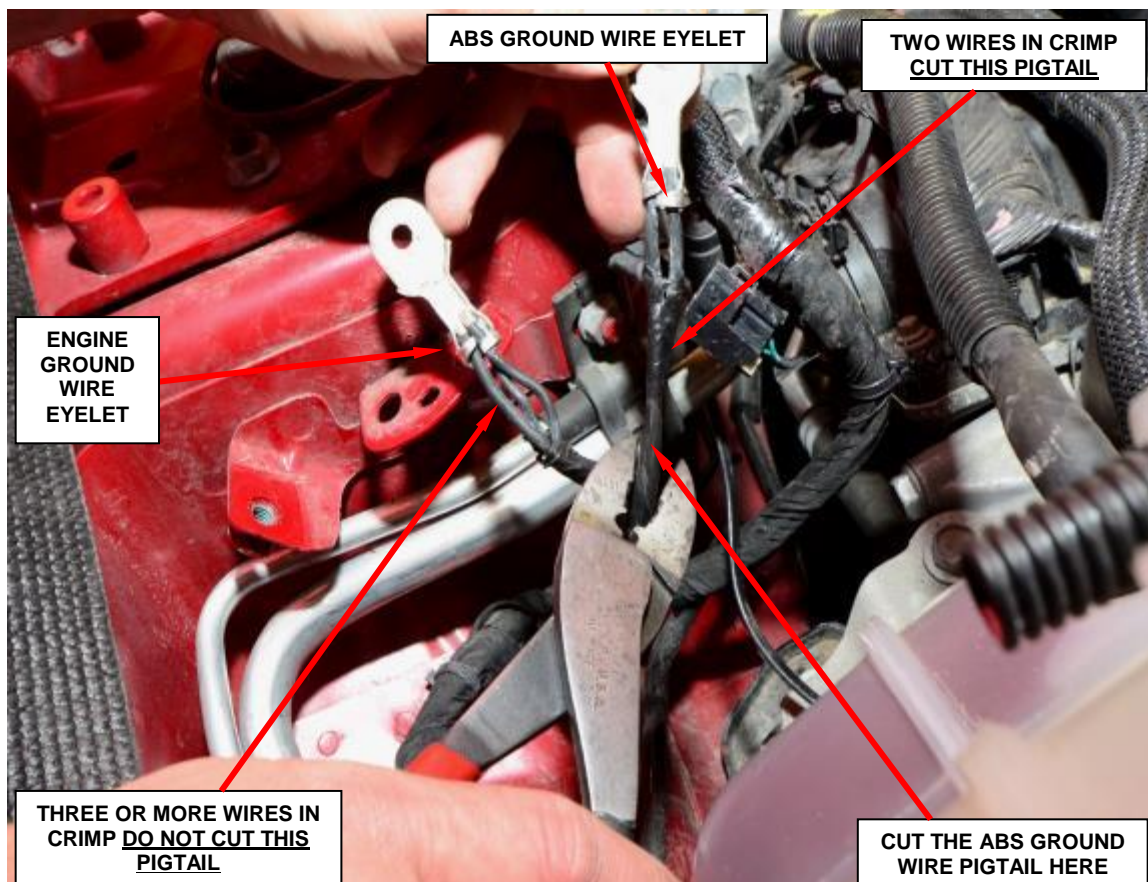

Figure 15 - Ground Eyelets
13. Remove the original heat shrink tubing from both ground eyelets (Figure 15).
14. Cut the **two wire** ABS module ground wire pigtail off at the wire harness take out and tape over the cut end. These wires will no longer be used (Figure 15).